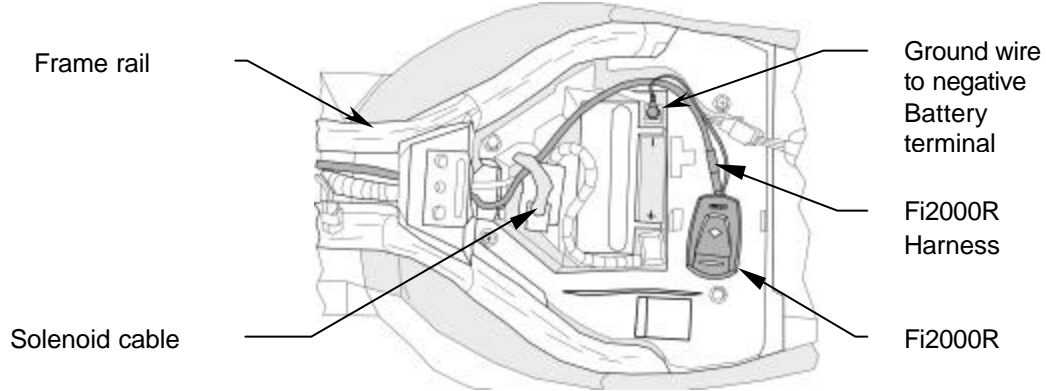

FIGURE 1
3. Temporarily position the Fi2000R module by the battery, and route the wire harness forward underneath the starter solenoid cable and into the notch in plastic cover, (Fig.1.) Continue routing the harness under the frame at the rear of the fuel tank, and continue it up past the left side of the throttle body assembly.
6. Connect the Fi2000R ground wire (black), to the negative post of the battery and attach the Fi2000R module to the top of the plastic panel with the supplied Velcro, (Fig. 1.) Before reinstalling the seats verify all connections are made properly.
7. Remove the door from the Fi2000R module to expose the LED's. Verify the wire connections by (1) turning on the ignition while watching the 3 LED's. They will all light up for a few seconds, then go off. This is correct. If you don't see lights, make sure the side stand is up, bike is in neutral, clutch is in and handle bar engine switch is set to run. If you still have no lights, re-check that all connectors are fully engaged and the ground wire is connected correctly.--(Continued next page)
- 7 Cont. (2) After achieving a steady light from all three LED's, start the motorcycle; the green light should now be the only LED on. If all three LED's are still on after start up, verify you have attached the injector connectors correctly. Reattach the access door when finished and install seat. **Note:** Make sure the ignition is turned off before changing any connection.